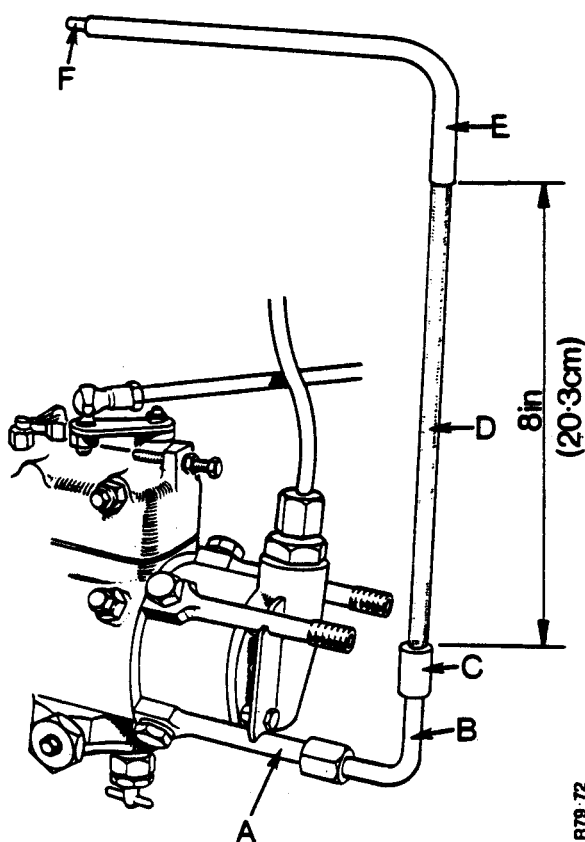

FIGURE 22 EQUIPMENT FOR SPILL TIMING
3. Install the tubing on the No. 1 connector as shown in Figure 22.
NOTE: The diameter and length of glass capillary tube is very important and must be as given in Figure 22.
† FIGURE 22 EQUIPMENT FOR SPILL TIMING